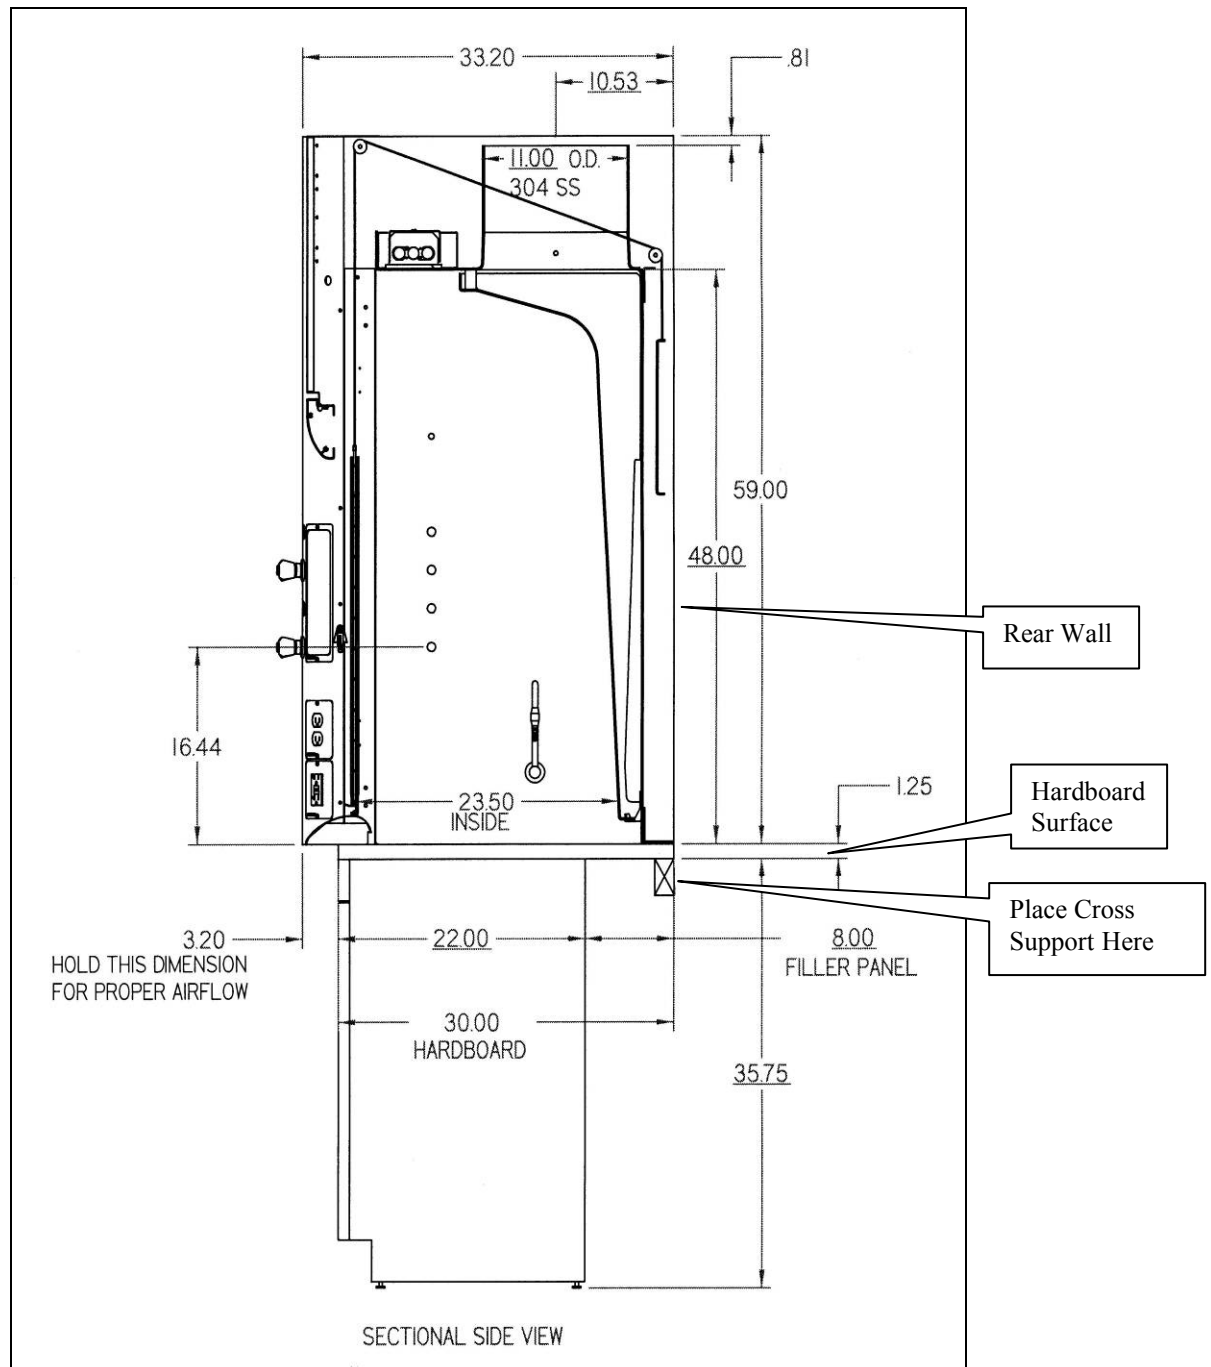

Figure 3-2
1. Level the base cabinets and the hardboard support surface. Hardboard surface should be placed flush with the back of the fume hood as shown in Figure 3-2.